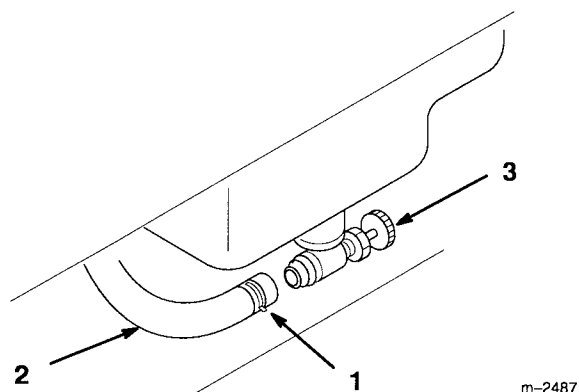

Figure 37
3. Loosen the hose clamp and slide it up the fuel line away from the fuel shut-off valve (Fig. 37).
4. Pull the fuel line off the fuel shut-off valve (Fig. 37). Some fuel will flow out from the hose as it is disconnected from the valve. Attach a 5/16 ID hose to the valve to help drain the fuel into the container. Open the valve and allow gasoline to drain into a gas can or drain pan.
5. Install the fuel line onto the fuel shut-off valve. Slide the hose clamp close to the valve to secure the fuel line (Fig. 37). The fuel shut-off valve should normally be left open, except for service on the fuel system or when the tractor is transported on a trailer.